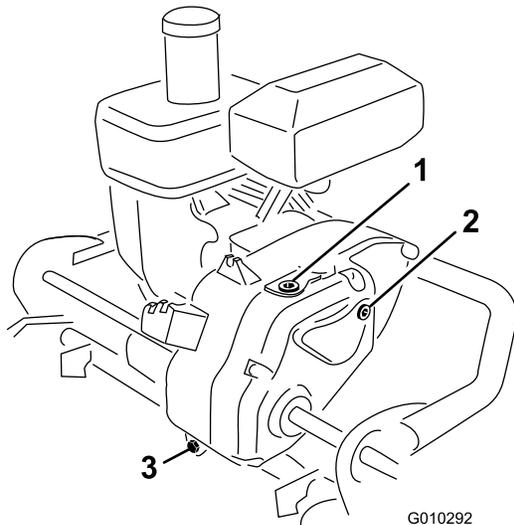

Figure 35
2. Remove the drain plug from the rear of the transmission (Figure 35).
3. Push down on the handle and tip the machine back. Remove the check plug from the right-hand side of the transmission (Figure 35).
6. Remove the fill plug from the top of the transmission (Figure 35). Do not remove the vent pipe.